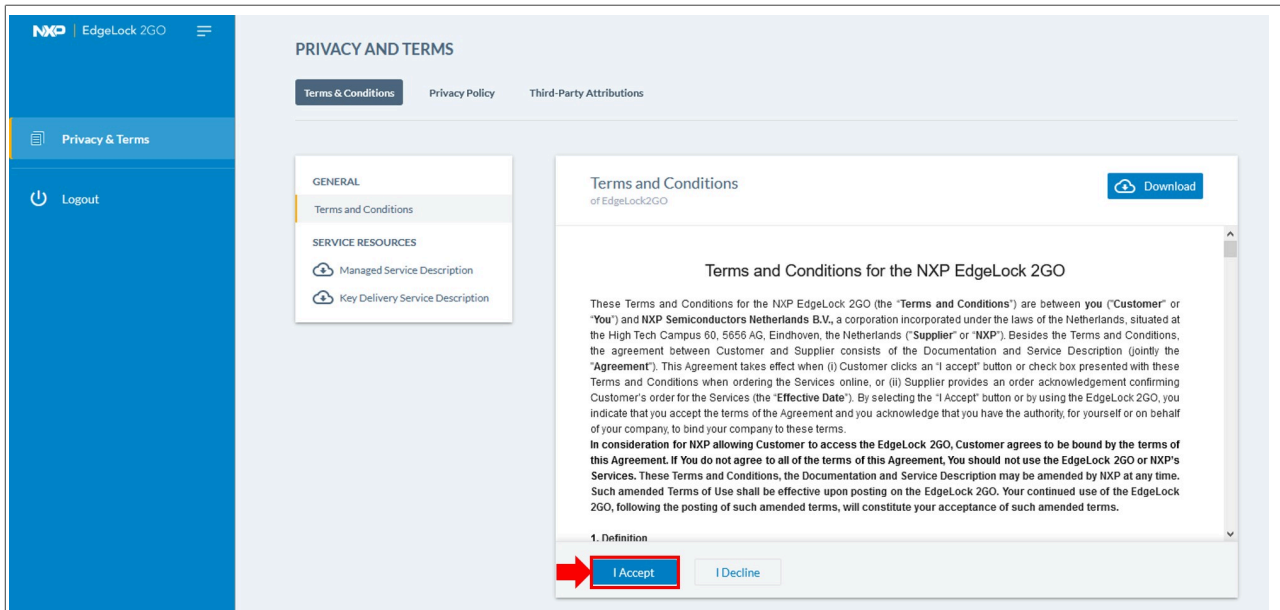

Figure 9. Accept EdgeLock 2GO terms and conditions
4. If this is your first login, you will be redirected to the terms & conditions screen. You will have to accept the terms & conditions by clicking on the *I Accept* button as shown in Figure 9 in order to use the service.